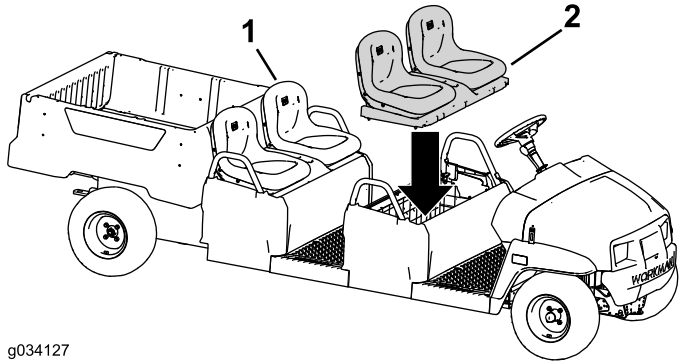

Figure 52
2. Install the original seat assembly to the rear seat row (Figure 52).
3. Install the seat assembly to the front seat row (Figure 52).